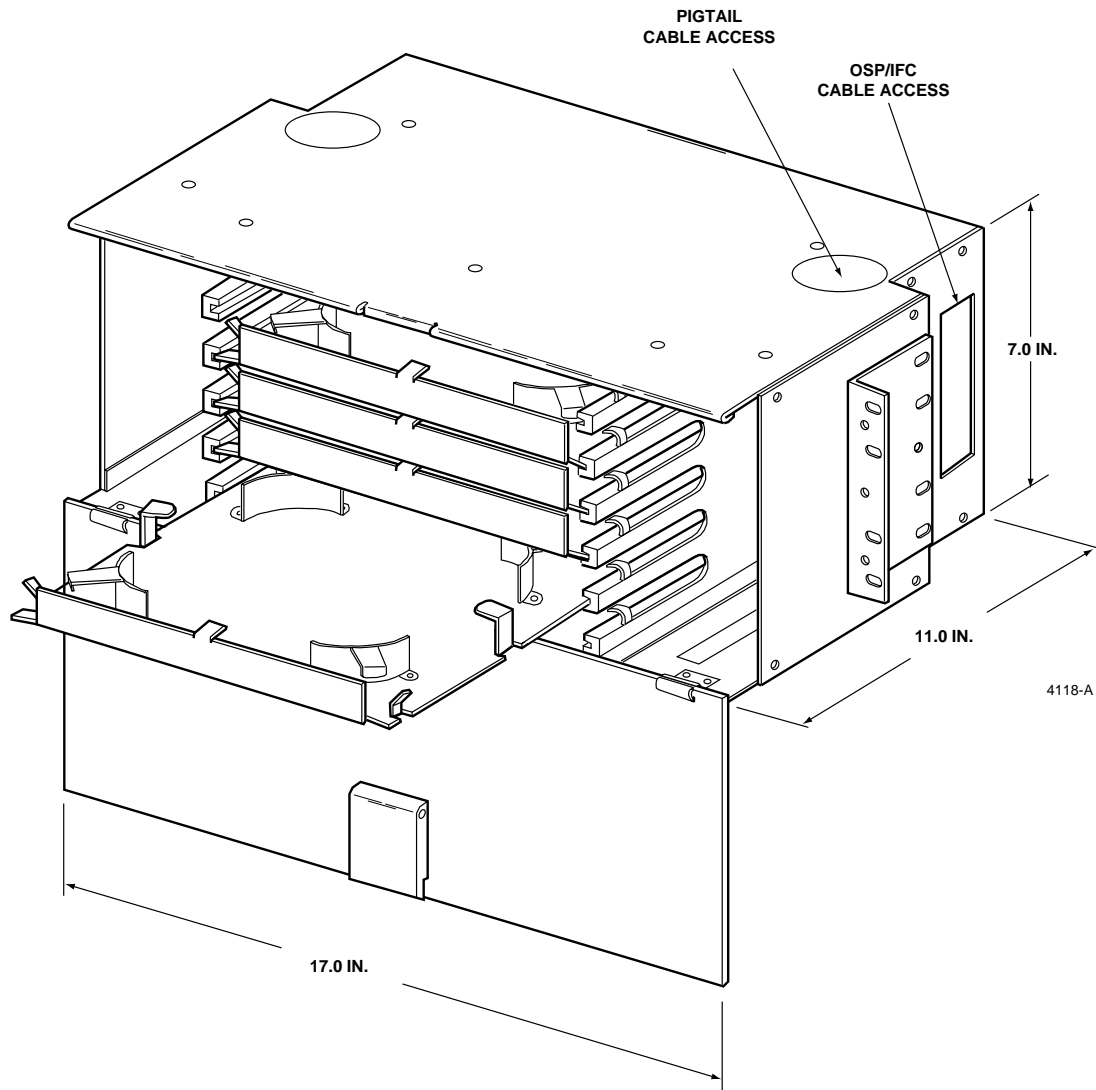
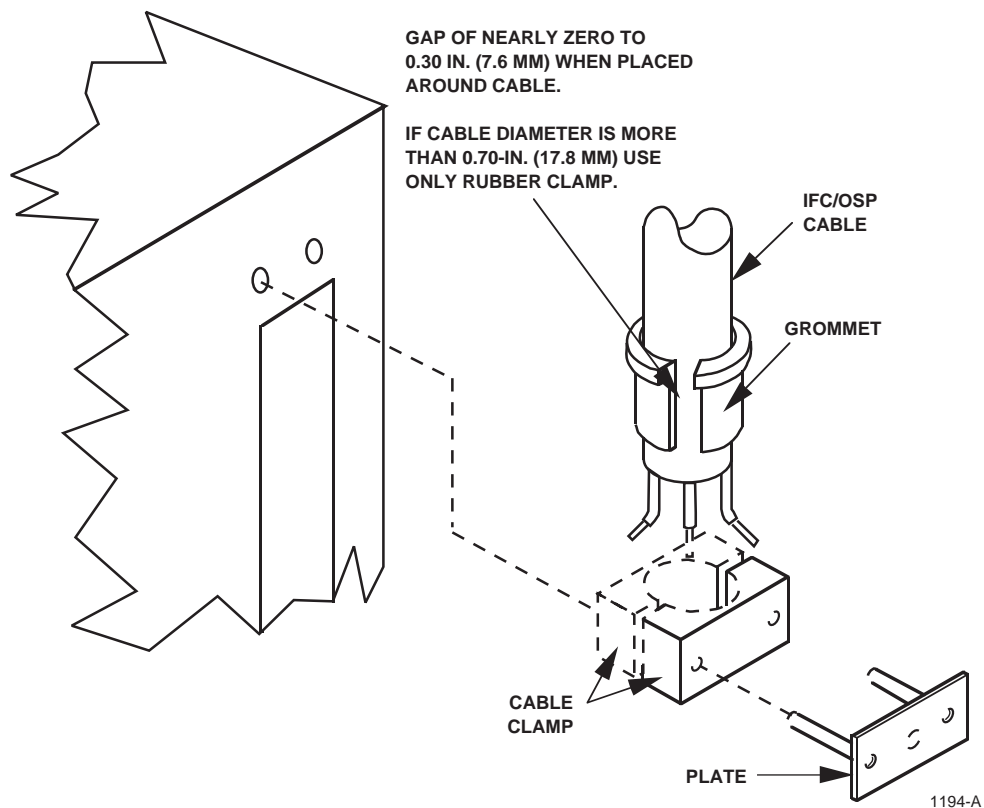

Figure 3. 7-Inch FDS Splice Module Components and Dimensions
Figure 7. Cable Clamp Assembly
4.01 The splice module requires a 7-inch (17.8 cm) mounting space within the frame. Major components of the splice module are shown in **Figure 3** and are described in the following paragraphs. Specifications for the module are listed in **Table 1**.
5.09 Assemble the cable clamp components as shown in **Figure 7** and attach to the side of the chassis (see **Figure 3**). If the cable is routed to the chassis from above, install the cable clamp in the upper part of the chassis. If the cable is routed to the chassis from below, install the cable clamp in the lower part of the chassis.